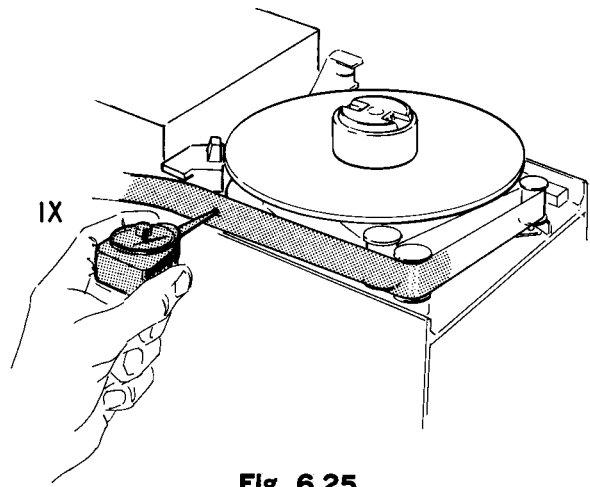

Fig. 6.25
- Fig 6.25 1. Fit the supply flange and takeup flange and load the punch with a full coil of tape.
2. Loosen the surge takeup arm from the retainer magnet and check as shown in Fig 6.25 that the force exerted for unwinding the tape does not exceed 50 gf.